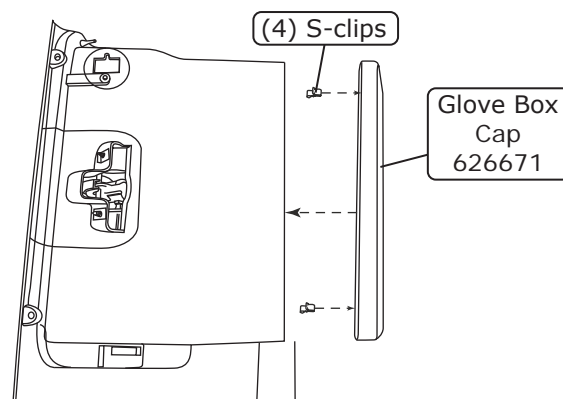

Figure 2
3. Modify the glove box as shown in Figure 2, below.